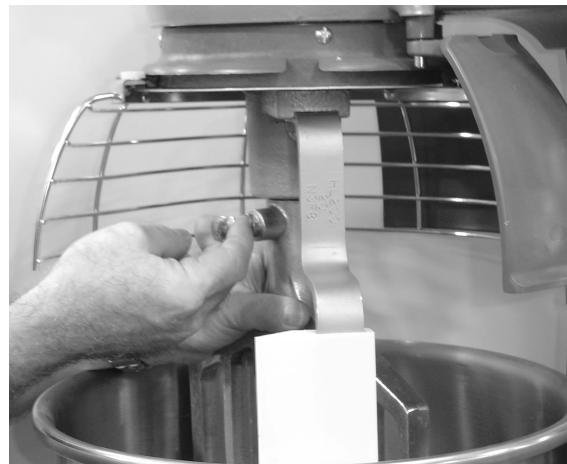

Fig. 9
4. Remove beater (if attached) by pulling the plunger as shown in Fig. 9.